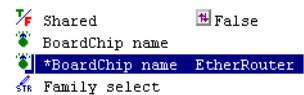

Figure 13-14 Setting up EtherRouter
3. Select the name of the required group, for example **EtherRouter**. A new entry is displayed in the right pane with an asterisk * beside it, shown in Figure 13-14.